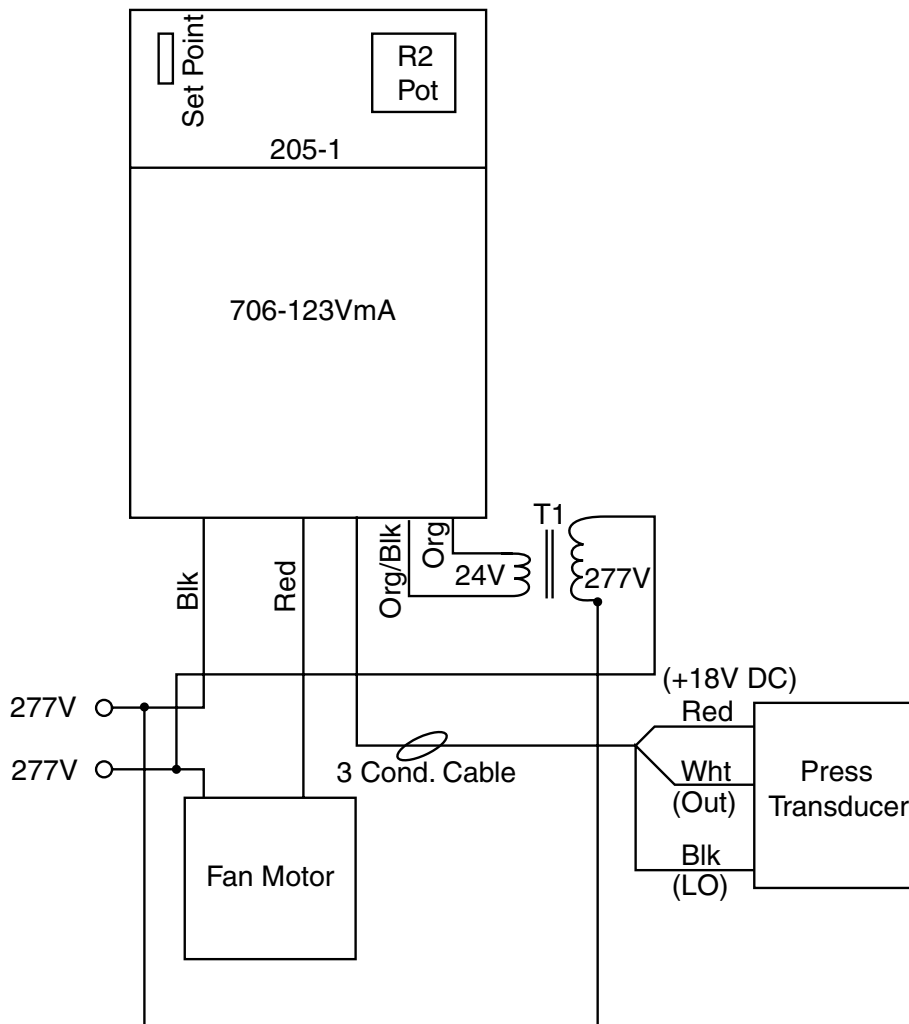

Figure 1
1. Connect the system as in Figure 1.